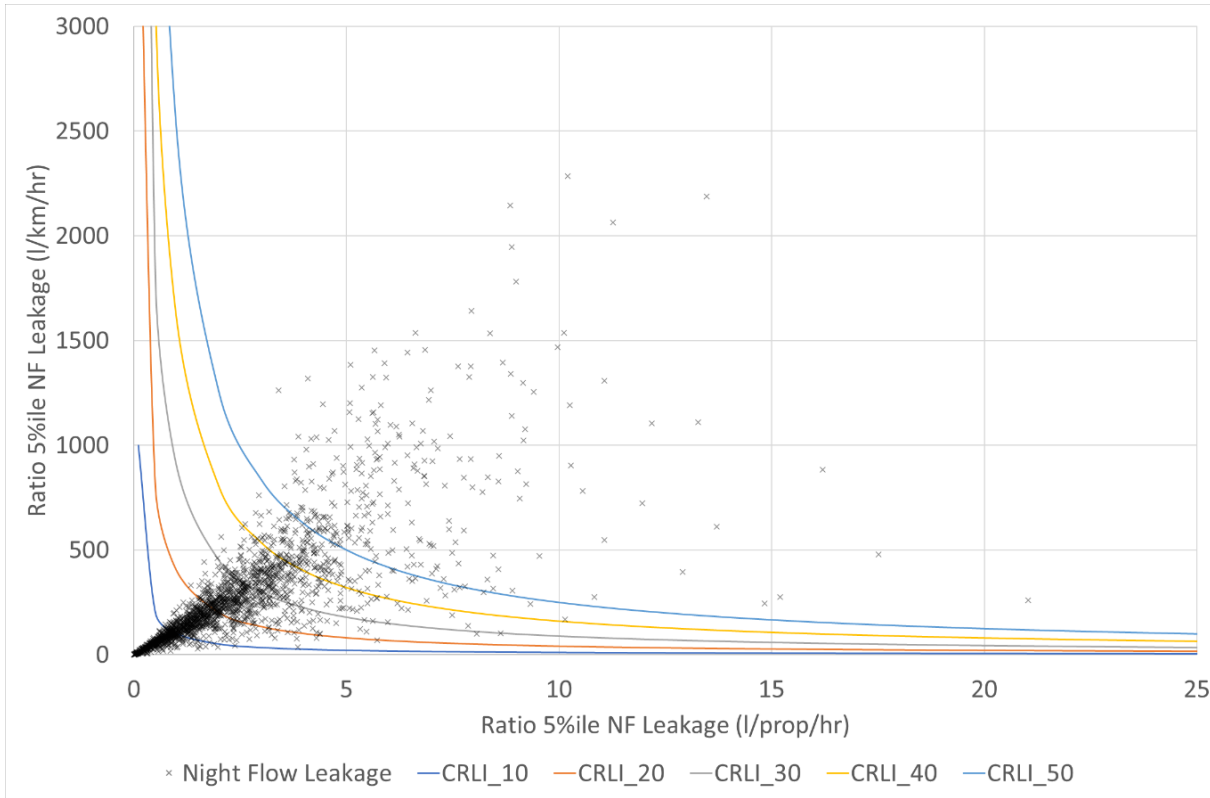

Figure 2: Range of DMA-level lowest achieved night flow leakage
- Figure 2 shows the range of 5%ile MAL values across the DMAs in the participating companies on two axis graph scaled by the length of mains and the number of properties.